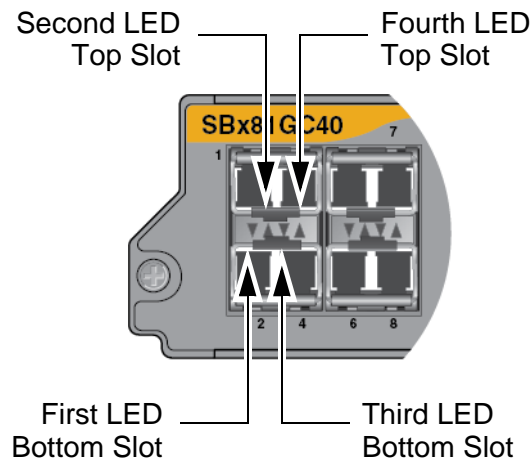

Figure 25. LEDs for the AT-SBx81GC40 Line Card
**LEDs** The AT-SBx81GC40 Line Card has two LEDs for each port. The LEDs, which display link and activity information, are located between the ports, in sets of four. The first and third LEDs of each set are for the bottom port and the second and fourth LEDs are for the top port, as shown in Figure 25.